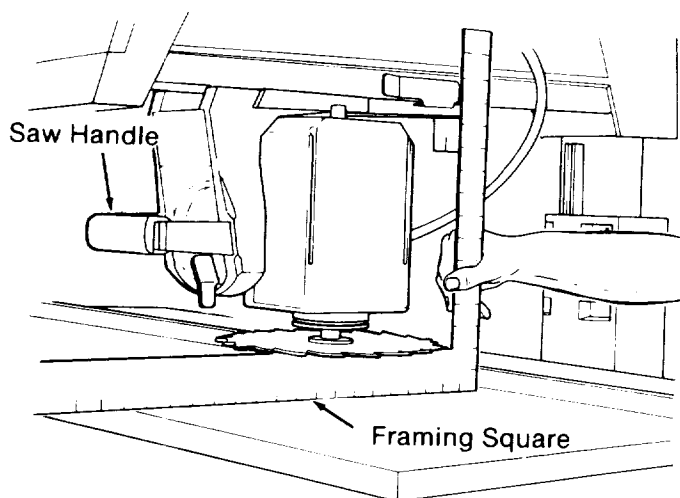

Fig. 98
5. Place the corner of the framing square against the *fence* so that the long edge is on the *table* under the *blade* and the short edge is sticking up in the air. Make sure that the long edge is perpendicular to the *fence*. (Figure 98)